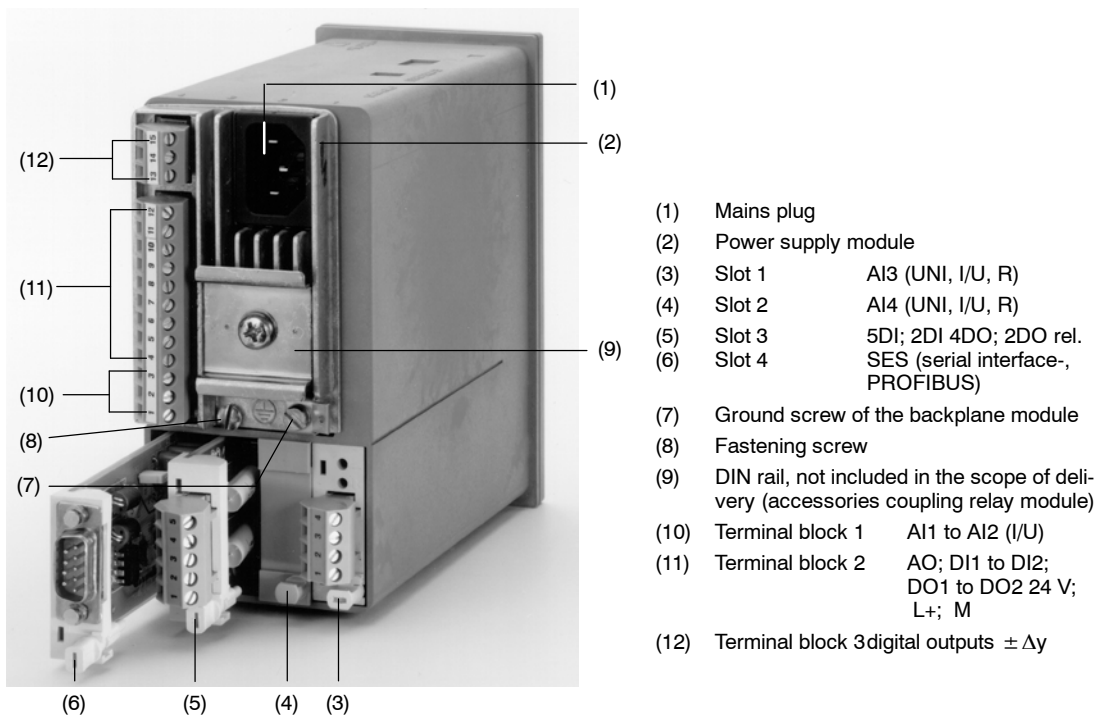
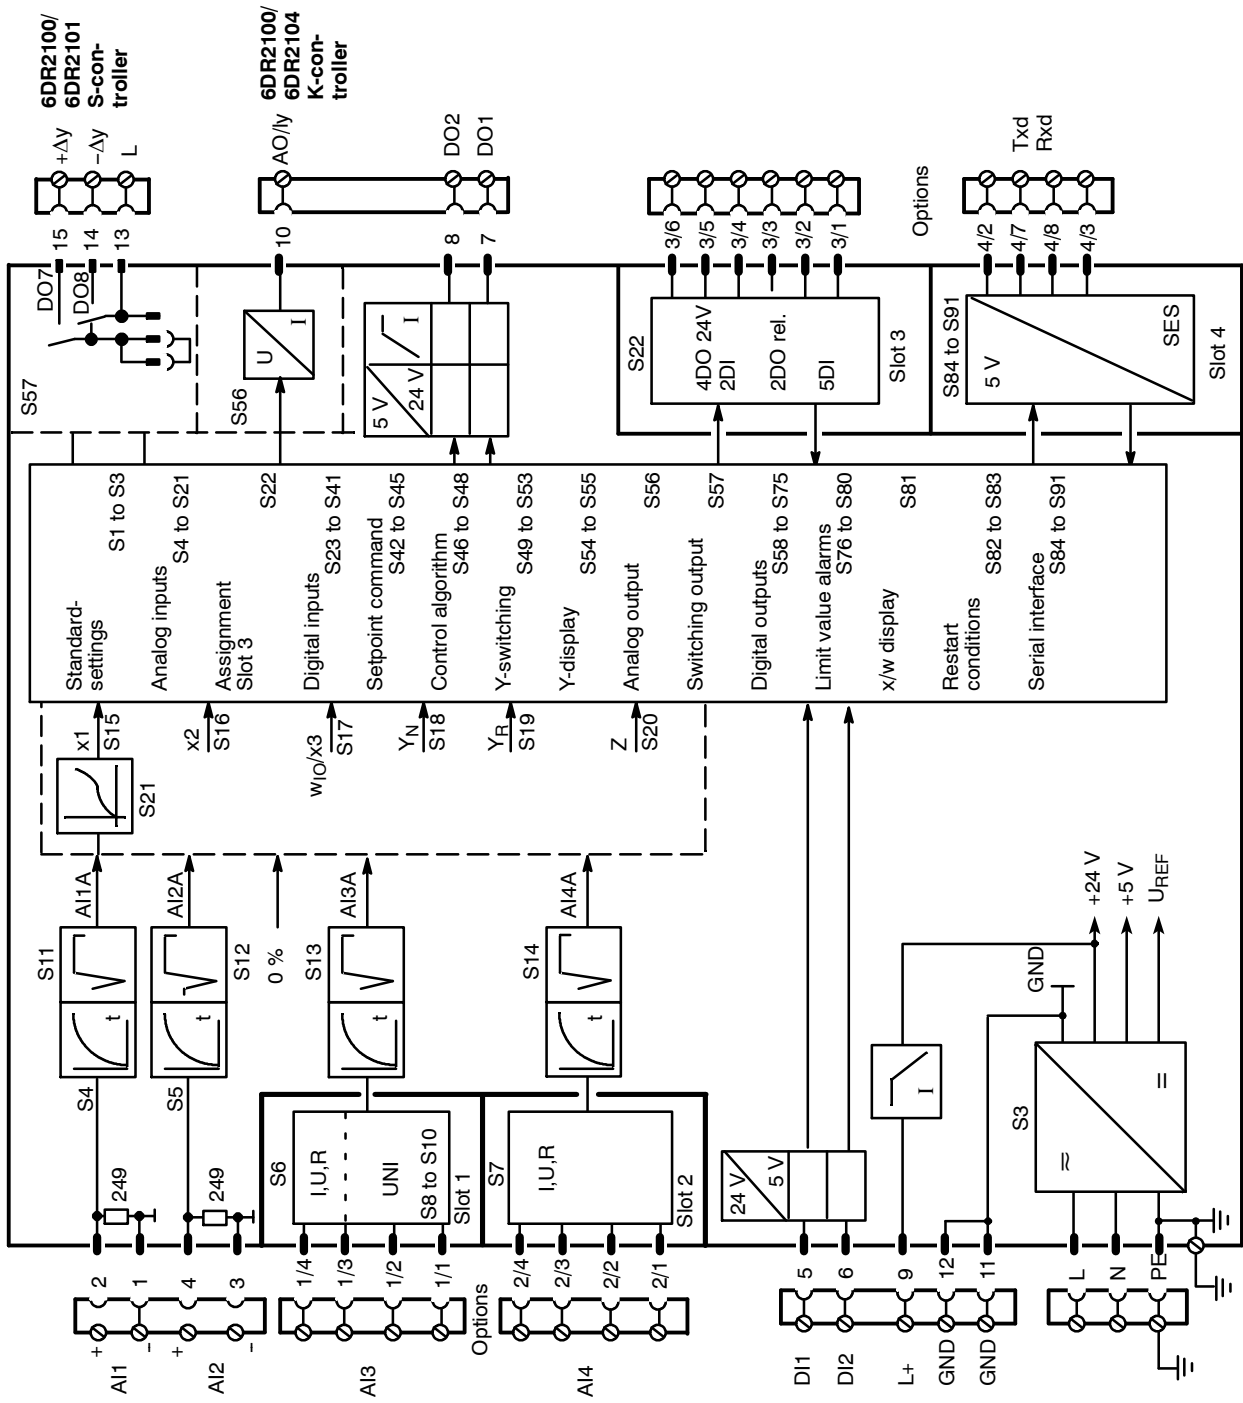

Figure 4-8 Controller backplane with terminal assignment of the standard controller
Figure 4-9 Block diagram SIPART DR21
Connect the PE conductor to the ground screw (see figure 4-8, page 128) on the back of the controller. When connecting to 115 or 230 V AC-mains supply, the PE conductor can also be connected through the three-pin plug (see figure 4-9, page 129). The controller's ground-connection may also be connected with the PE conductor (grounded extra low voltages).
The SIPART DR21 is designed with a high electromagnetic compatibility (EMC) and has a high resistance to HF-interference. In order to maintain this high operational reliability we automatically assume that all inductances (e.g. relays, contactors, motors) installed in the vicinity of or connected to the controllers are assembled with suitable suppressors (e.g. RC-combinations)! To dissipate interference, the controller must be connected at the PE-terminal of the cast body (figure 4-8, page 128 item 5) with good HF-conductance.
- 1) The connection between the PE conductor screw (figure 4-8, item 5, page 128) to ground must be established additionally for high electromagnetic compatibility (EMC) in 115/230 V-controllers. This connection must also be low resistive for high frequencies (Cu-band or Hf-strand). Alternatively at least 2.5 mm² flexible should be used.